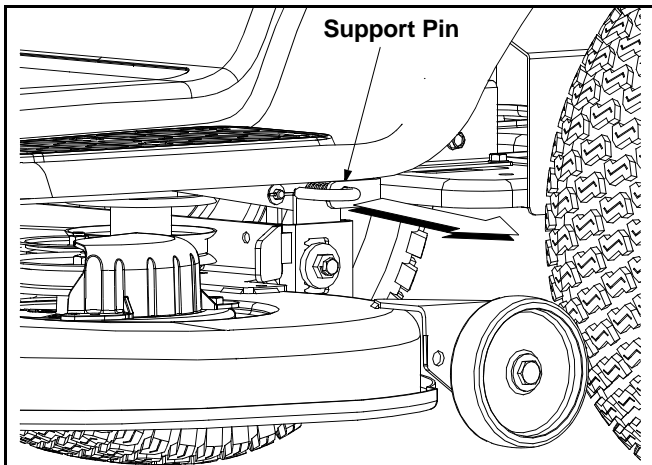

Figure 24
- Pull the deck support pin outward to release the deck from the deck lift arm. See Figure 24.